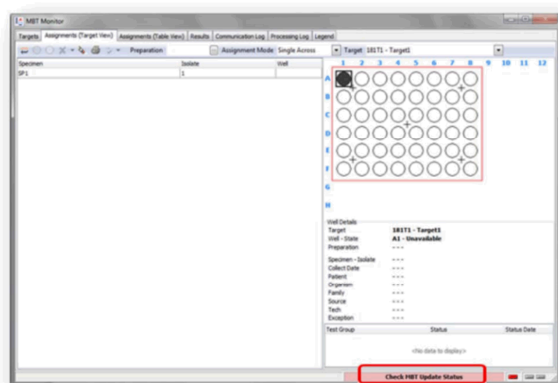

Figure 13: Check for Library Updates
1. On the **MBT Monitor**, click in the **Library Update** bar located in the lower right corner of the screen (See red rectangle in Figure 13). This bar changes color and messages depending on the activity.